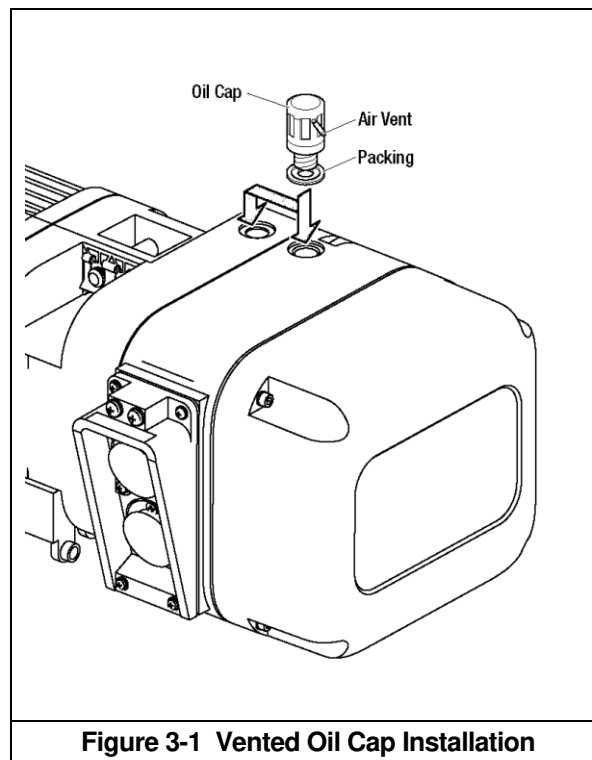

Figure 3-1 Vented Oil Cap Installation
- 3.1.3 All ER2, mechanical load brake installed, hoists are shipped with a separate air vented oil cap. This vented oil cap must be installed prior to use. To install, remove an existing oil cap and replace with the vented oil cap (refer to Figure 3-1).
- 3.1.4 There are two oil fill holes located in the top of the gear case on the ER2 hoist. For ER2 coupled to MR2 trolley, there are some flange widths that make it necessary to relocate the oil cap assembly to the other oil fill hole. This will prevent interference with trolley side plate. Refer to Figure 3-1.